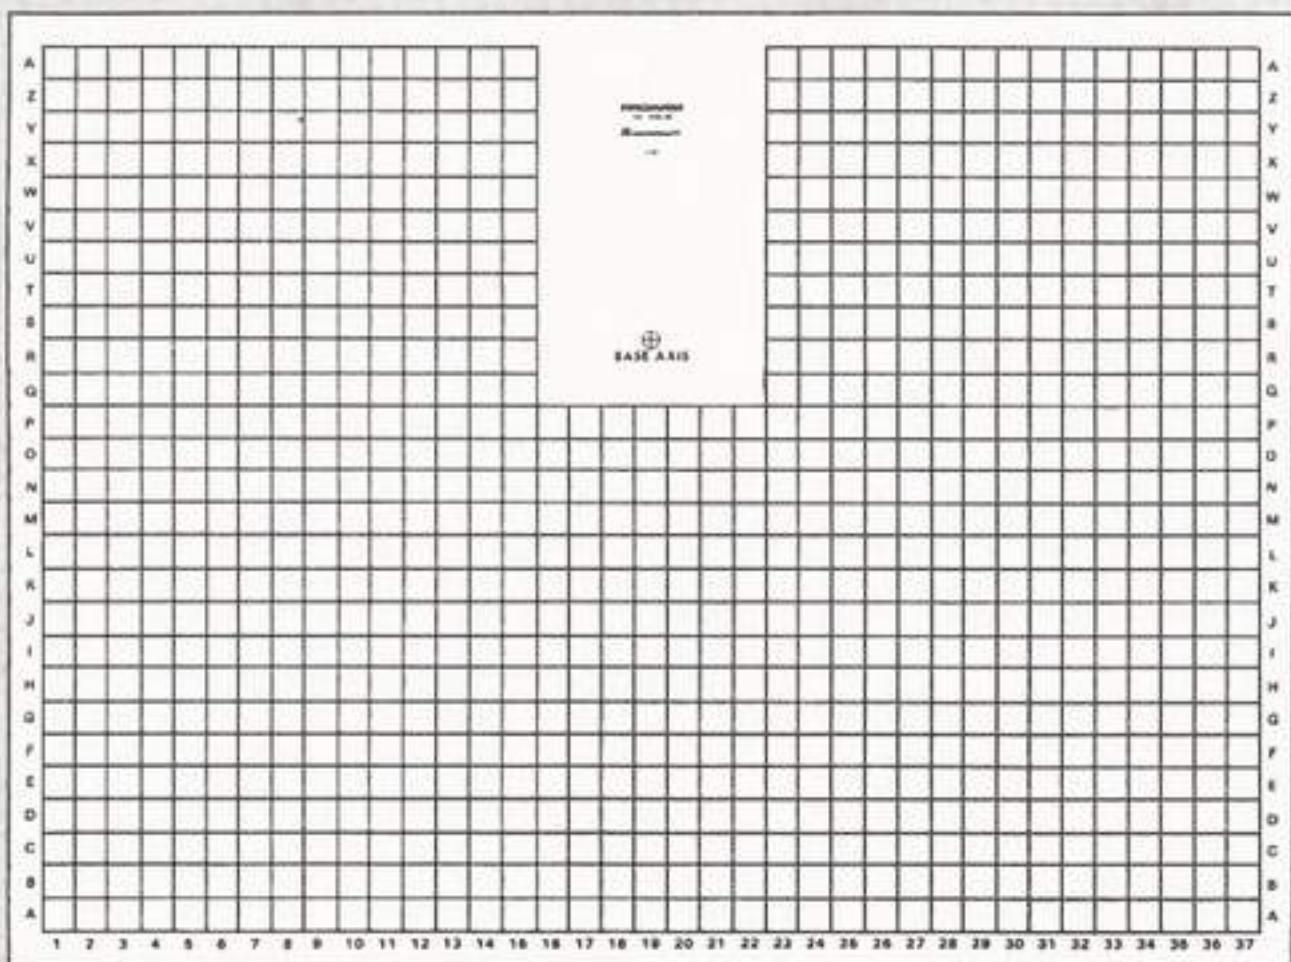

Fig. 84: Second Placement Position
- _____ l. The arm will next return, pick up the block, and place it on the other side of the grid sheet. Observe and record the exact location of this second placement position of the block, by drawing a circle on the corresponding portion of the grid shown in Fig. 84.
- p. Measure the difference, if any, between the first and last placements, as recorded in Fig. 84.
Placement difference (Fig. 84) = _____ inches